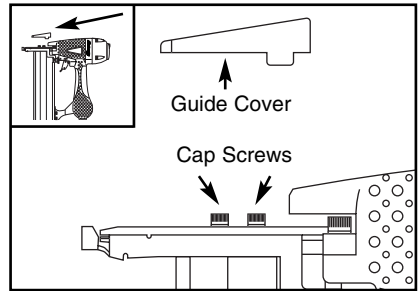

Figure 5. Removing guide cover.
3. Loosen the 2 cap screws that secure the driver guide cover to the driver guide on the nose assembly. Remove the driver guide cover. See **Figure 5** to identify these parts.